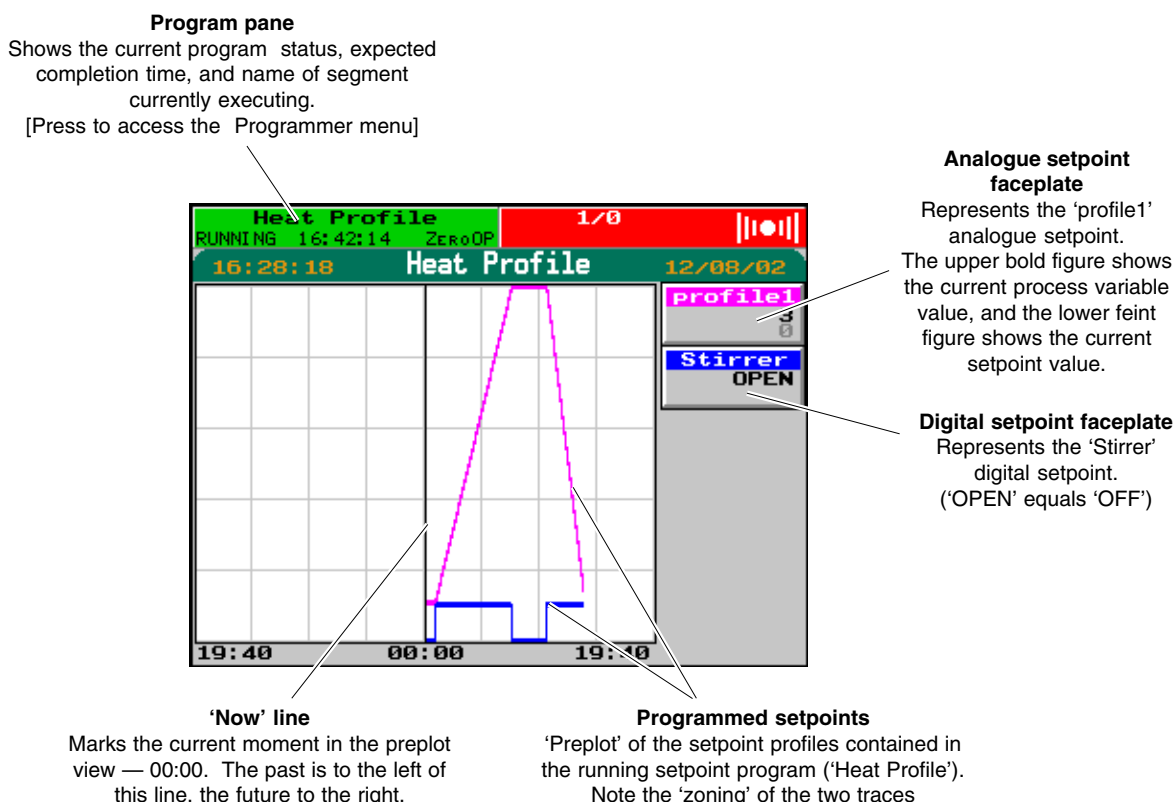

Figure 3-7 Preplot view of ‘Heat Profile’ (ZeroOP segment)
- 6 Access the **Programmer** menu again, and press **RUN** to start the setpoint program. Then press **PRE-PLOT** to see the ‘Heat Profile’ preplot (Figure 3-7). To the left of the central vertical ‘now’ line is a realtime plot of PV and the programmed SP. To the right is that part of the programmed setpoint still to be applied. The preplot makes it very clear how closely (or not) PV is following SP, and what to expect next.